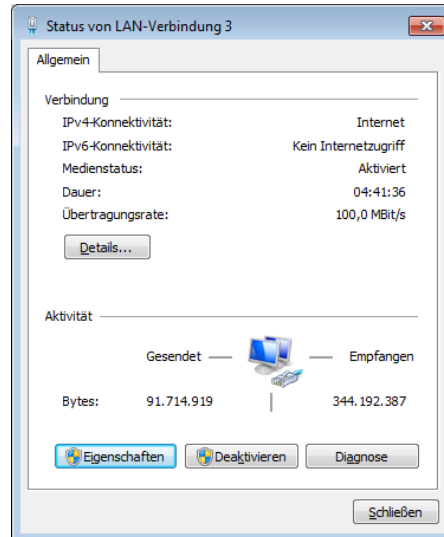

Figure 1
- To select the function Internet Protocol click (figure 1) on sub item "Properties"